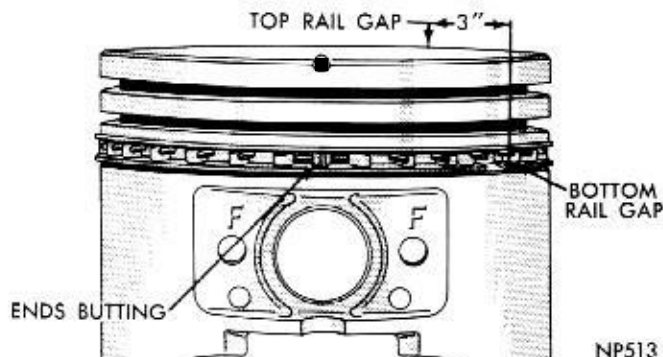

Fig. 38—Proper Oil Ring Installation
(1) Before installing pistons, and connecting rod assemblies into the bore, be sure that compression ring gaps are staggered so that neither is in line with oil ring rail gap.
(2) Before installing the ring compressor, make sure the oil ring expander ends are butted and the rail gaps located as shown in figure 38.